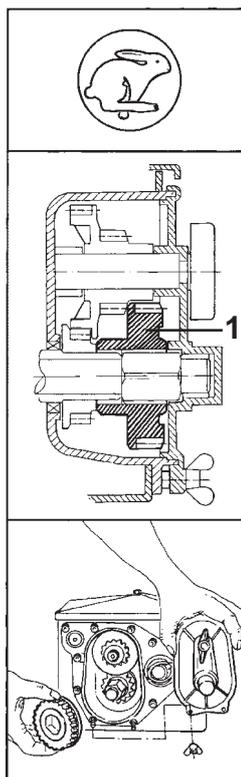
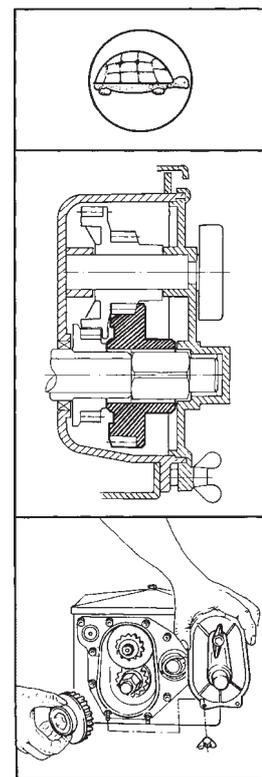

Fig. 7.10
Fig. 7.11
The two cogs inside the gearbox (7.8/1) provide two ratios: "high" or "low". The setting range of the setting scale (7.8/2) is enlarged. By turning the cog (7.10/1) "fast speed" range (Fig.7.10), alternatively a "slow speed" range (Fig.7.11) can be set.
- Remove the cog (7.10/1) from the shaft, turn it and reinsert it according to Fig. 7.11. If the pinion cannot be pulled off the shaft by hand, move the drive wheel until the cog can be removed easily from the shaft.